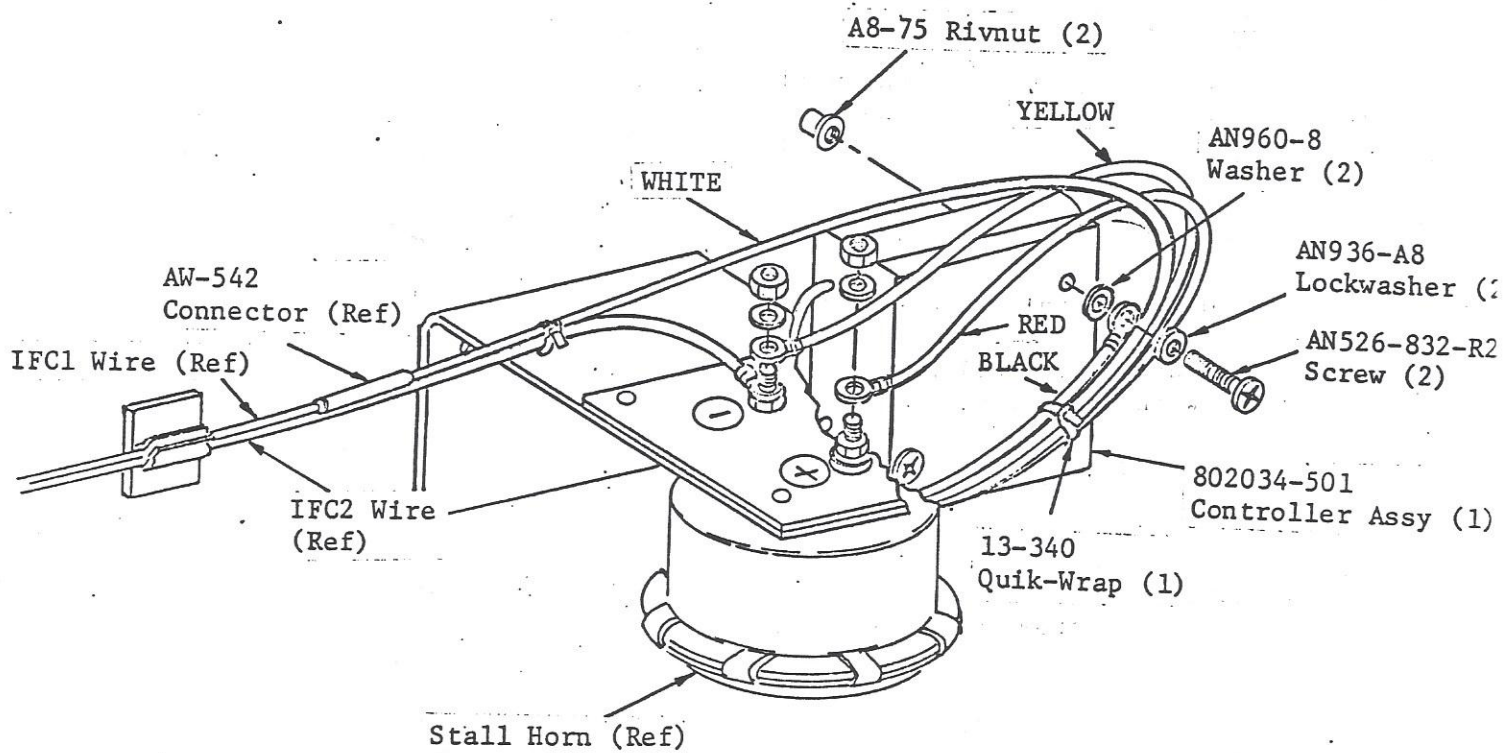

Figure 2. Stall Warning Controller Assembly Installation (Cont'd)
3. Attach the controller (802034-501) to the fuselage side panel with one screw (AN526-832-R20) through the upper right mounting hole. With controller in the position shown on figure 2, mark the location of the lower left hole and remove controller. Drill the remaining hole .221/.226 in. dia. thru inner skin only and install rivnut (A8-75).
4. Refer to figure 2 and install the controller assy. (802034-501) on the honey-comb panel with two (2) screws (AN 526-832-R20), two (2) washers (AN960-8) and two (2) lockwashers (AN936-A8).